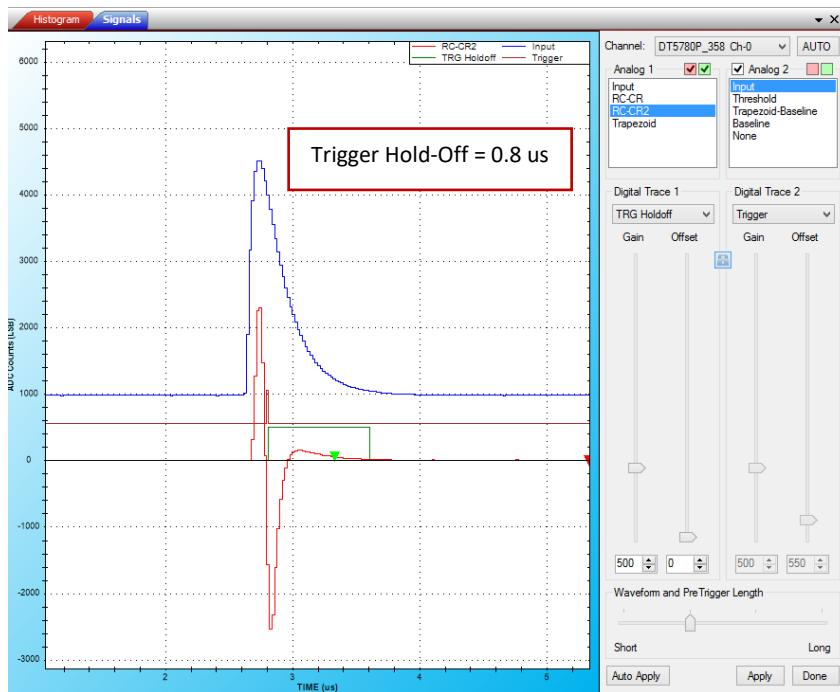

Fig. 3.26: RC-CR² signal with an overshoot. Set the Trigger Hold-Off to cover the overshoot and avoid re-triggering
3. In case the RC-CR² shows an overshoot (see **Fig. 3.26**), set the “Trigger Hold-Off” value as long enough to eventually include the overshoot inside it. The algorithm then inhibits any trigger occurring during the whole “Trigger Hold-Off” duration.